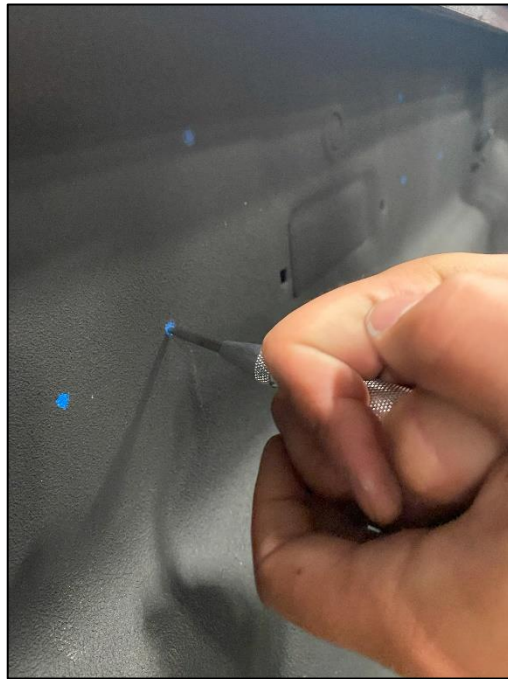

Figure 10
12. Use a Center Punch on each of the Marks made in *Step 8* and *11* to create a Center Mark for drilling. *Figure 10*.